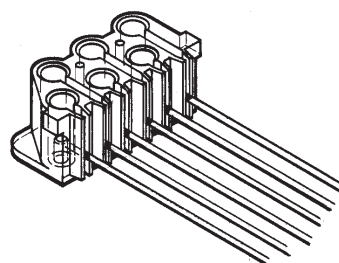

Figure 3
2. Inspect cap to ensure that each wire is in desired slot and that wire end is touching back of slot (Figure 3).